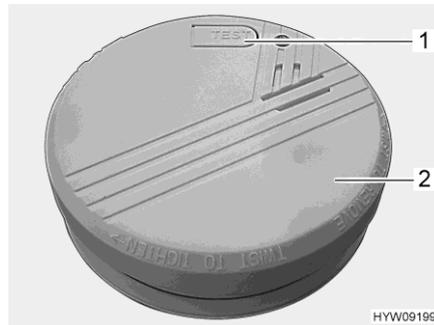

Fig. 118 Smoke alarm
- Turn the smoke alarm (Fig. 118,2) anticlockwise until it can be released from the holder.
- Test the smoke alarm. To do this, press the test button (Fig. 118,1). The alarm must sound.